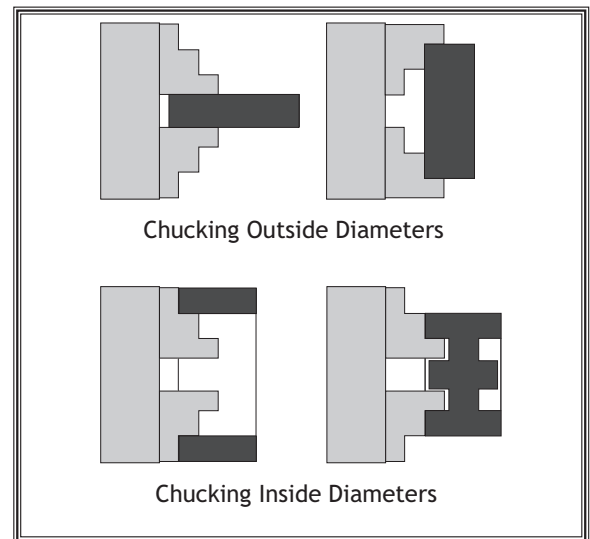

Figure 20. Loading a workpiece.
1. With the chuck key, open the jaws so the workpiece lays flat against the chuck face and jaw step, or fits in the through hole. For jaw and work holding options, see **Figure 20**.
Three-jaw scroll chucks come with two sets of hardened steel jaws. The outside jaws are used to hold the workpiece from the outer diameter. The inside jaws are for holding larger work usually from the inside diameter. The inside jaws can hold a workpiece from the outside when held in the central position (see **Figure 20**).